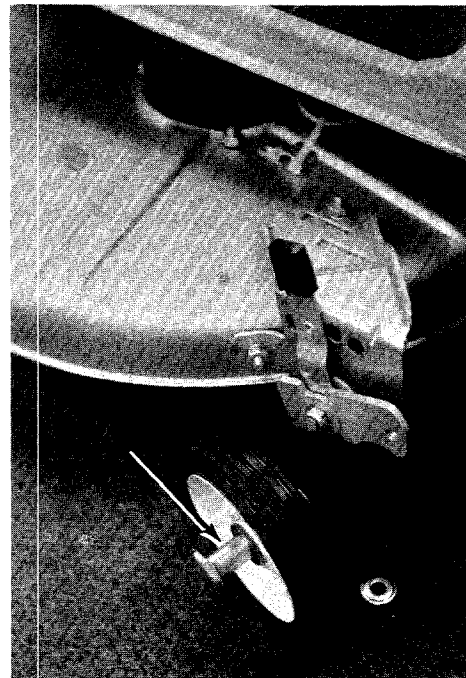

Figure 14
**Deck Wheels 5**—Remove the axle bolts and lubricate with multi-purpose automotive grease once a year. (See figure 14.)